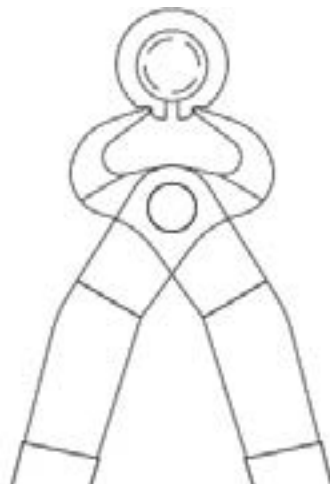

Fig. 4
1) Install – fit clip in groove squeezing firmly as fig. 4 – do not over-tighten as clip ends do not touch and there should be about a 0.050" gap.